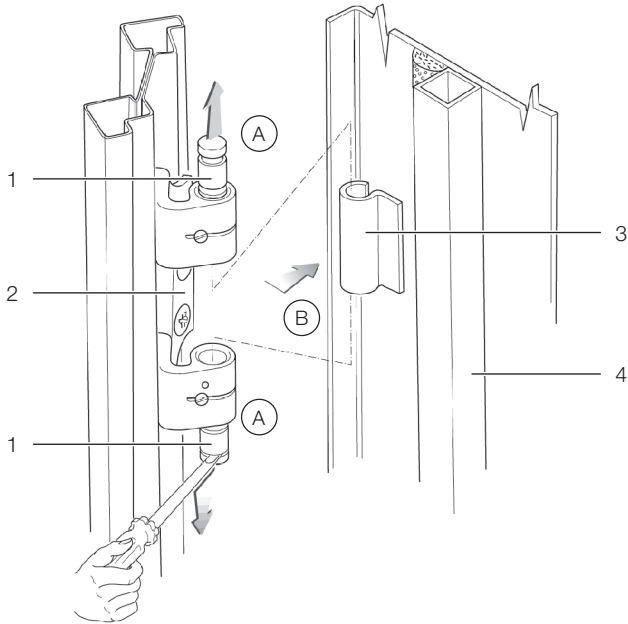

Fig. 2: Removing a door hinge
- Loosen the hinge bolts from the four door hinges by raising them with an appropriate tool (e.g. screwdriver). Pull the bolts out of the hinge pin holding fixture as far as they will go (see fig. 2, step A). Begin with the lowest door hinge.
- Remove the server enclosure door (fig. 2, step B).